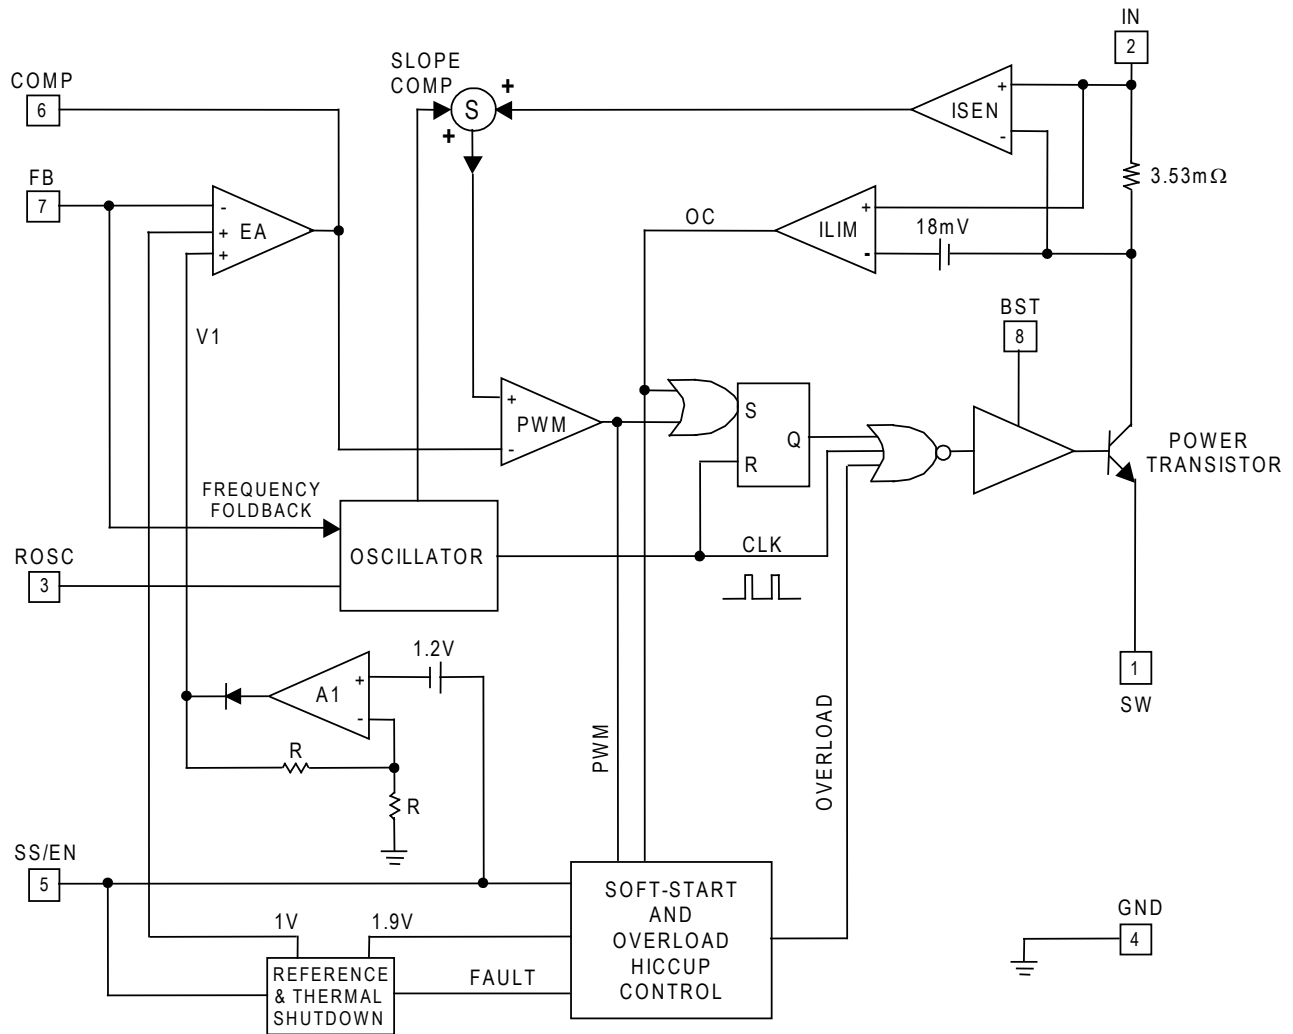

Figure 2 — SC4525EM Block Diagram
As shown in Figure 2, the switch collector current is sensed with an integrated 3.53mΩ sense resistor. The sensed current is summed with a slope-compensating ramp before it is compared with the transconductance error amplifier (EA) output. The PWM comparator trip point determines the switch turn-on pulse width. The current-limit comparator ILIM turns off the power switch when the sensed signal exceeds the 18mV current-limit threshold.
The error amplifier EA in Figure 2 has two non-inverting inputs. The non-inverting input with the lower voltage predominates. One of the non-inverting inputs is biased to a precision 1V reference and the other non-inverting input is tied to the output of the amplifier A₁. Amplifier A₁ produces an output V₁ = 2(V_{SS/EN} - 1.2V). V₁ is zero and COMP is forced low when V_{SS/EN} is below 1.2V. During start up, the effective non-inverting input of EA stays at zero until the soft-start capacitor is charged above 1.2V. Once V_{SS/EN} exceeds 1.2V, COMP is released. The regulator starts to switch when V_{COMP} rises above 0.4V. If the soft-start interval is made sufficiently long, then the FB voltage (hence the output voltage) will track V₁ during start up. V_{SS/EN} must be at least 1.83V for the output to achieve regulation. Proper soft-start prevents output overshoot. Current drawn from the input supply is also well controlled.
becomes armed. As the load draws more current from the regulator, the current-limit comparator ILIM (Figure 2) will eventually limit the switch current on a cycle-by-cycle basis. The over-current signal OC goes high, setting the latch B₃. The soft-start capacitor is discharged with (I_D - I_C) (Figure 3). If the inductor current falls below the current limit and the PWM comparator instead turns off the switch, then latch B₃ will be reset and I_C will recharge the soft-start capacitor. If over-current condition persists or OC becomes asserted more often than PWM over a period of time, then the soft-start capacitor will be discharged below 1.9V. At this juncture, comparator B₄ sets the overload latch B₂. The soft-start capacitor will be continuously discharged with (I_D - I_C). The COMP pin is immediately pulled to ground. The switching regulator is shut off until the soft-start capacitor is discharged below 1.0V. At this moment, the overload latch is reset. The soft-start capacitor is recharged and the converter again undergoes soft-start. The regulator will go through soft-start, overload shutdown and restart until it is no longer overloaded.
The PWM latch in Figure 2 is reset every cycle by the clock. The clock also turns off the power transistor to refresh the bootstrap capacitor. This minimum off time limits the attainable duty cycle of the regulator at a given switching frequency. The measured minimum off time is 138ns typically. If the required duty cycle is higher than the attainable maximum, then the output voltage will not be able to reach its set value in continuous-conduction mode.